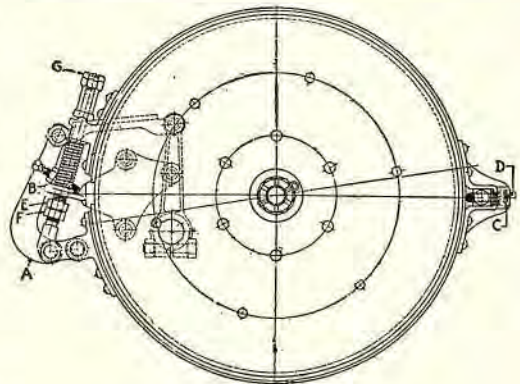

Fig. 10. External band brake (Timken).
1. By adjusting the lever, as at (A) (Fig. 10).
2. By adjusting the rear clearance of the band, as at (D) (Fig. 10).
3. By adjusting the lower half of the band for clearance, as at (E) and (F) (Fig. 10).
4. By adjusting the upper half of the band for clearance, as at (G) (Fig. 10).
The external brake (Fig. 10) is the type used on both, but the internal brake is of two types, shown in Figs. 11 and 12. The one shown in Fig. 11 is the type used on the semi-floating, or fixed-hub axles, and the one shown in Fig. 12 is the "toggle"-operated expanding band type of internal brake used on the full-floating axles.
Adjust the stop screw (B) (Fig. 10) so as to allow the lever (A) to come down as far as possible and still have a clearance of about $1/16''$ with the operating mechanism.